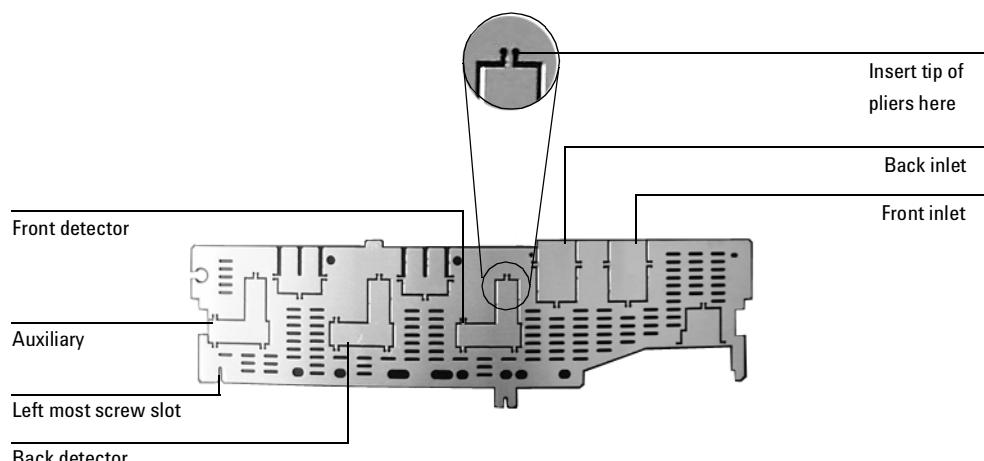

Figure 320-15 Top rear panel cutouts
10. Using a pair of needle-nosed pliers, remove the appropriate top rear panel detector cutout for the NPD. Also remove any cutouts needed to access other manifolds or accessories installed in the GC. See Figure 320-15.